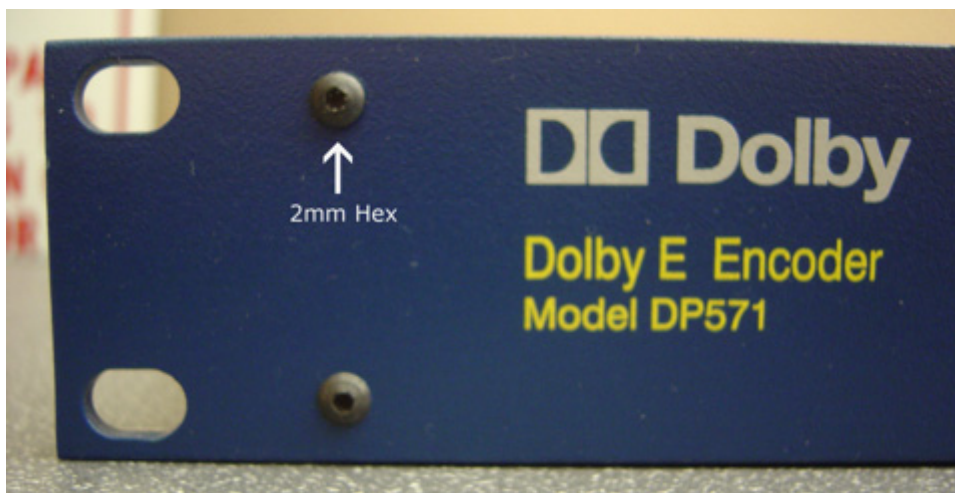

Figure 1 DP571 Front Panel (Left Side)
2. Remove screws holding the top cover in place. Begin with the three Allen cap screws in the top of the front panel. Figure 1, Figure 2, and Figure 3 show the screws.